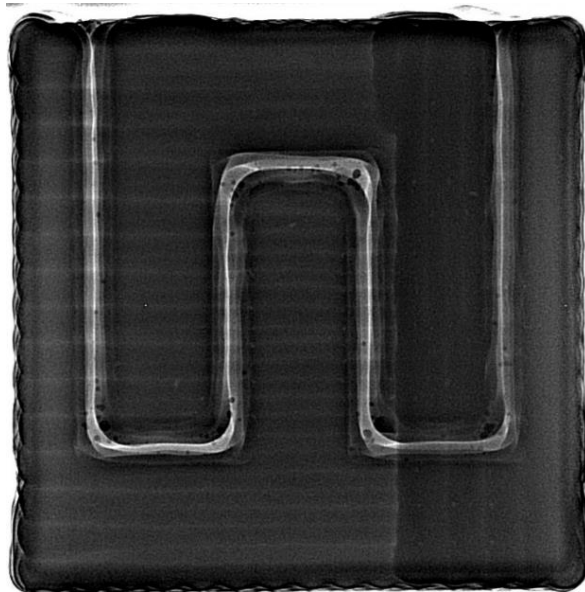

Figure 1
- Circular channels (figure 1) extremely challenging